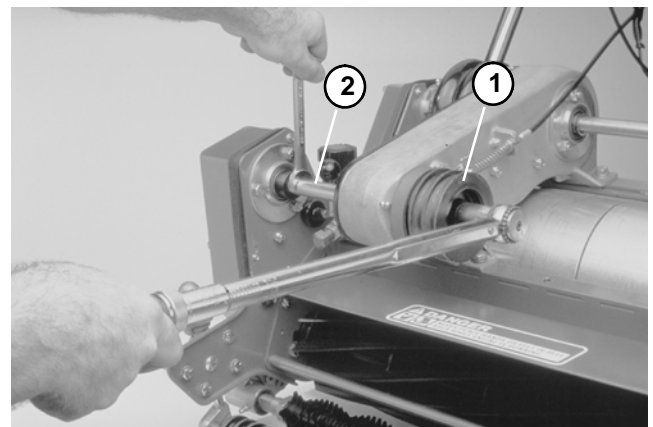

Figure 64
- B. Reinstall shaft input pulley to the power shaft. Screw lock nut onto shaft. Torque nut from 30 to 40 ft-lb (4.1 to 5.5 kg-m) while locking shaft with a 9/16-inch open end wrench (Fig. 64).